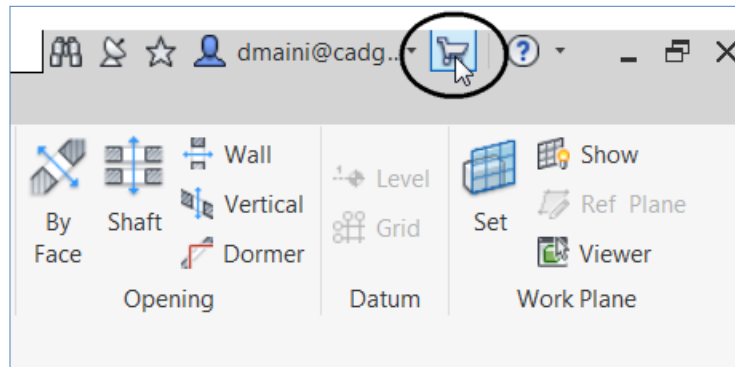

FIGURE 3: THE **EXCHANGE APPS** BUTTON
1. From the Revit software, click on the **Exchange Apps** button, as shown in Figure 3.